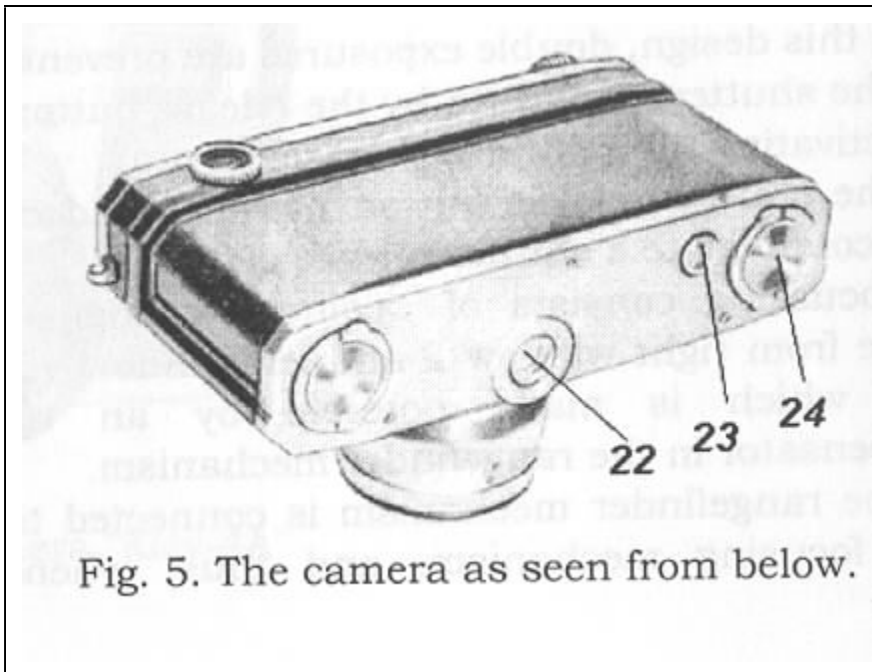
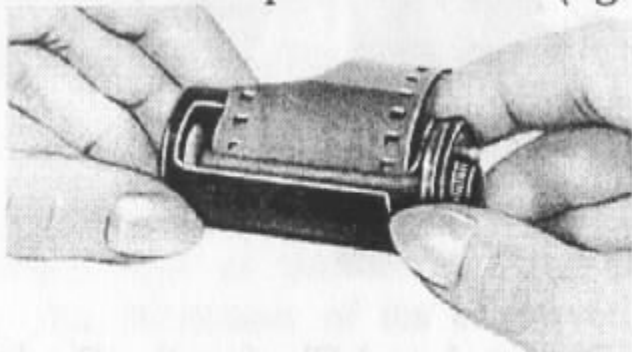
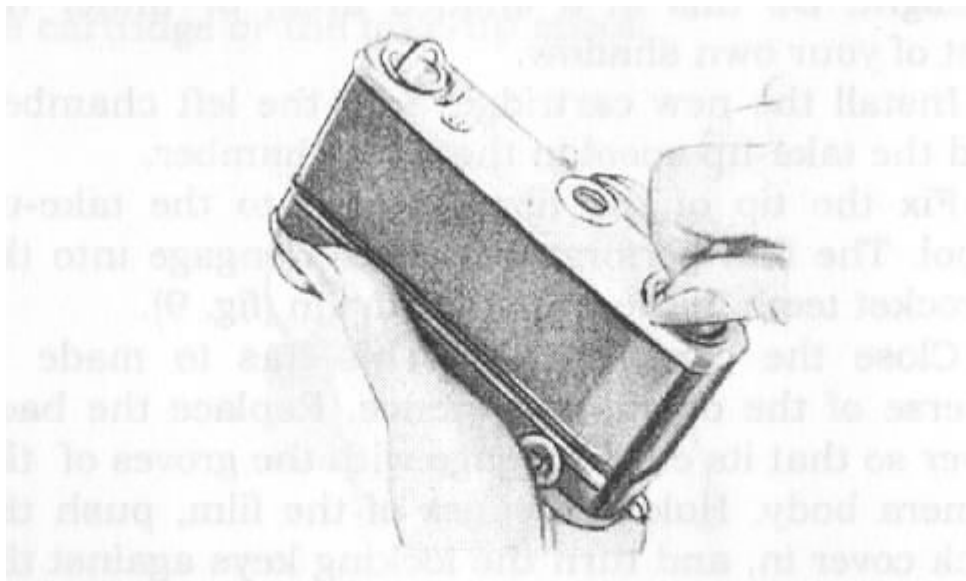

Fig. 5. The camera as seen from below.
Fig. 6. Old type film cartridge.
Fig. 7. Opening the locks on the back cover.
On the bottom of the back cover are: tripod socket 22, lock keys 24 for locking the back cover, and film rewind button 23 (fig. 5).
Standard 35mm (135 type) film cartridges or special old type cartridges (fig 6) can be used. Before loading, the camera should be taken from its case. Unscrew the locking screw found on the bottom of the case, fastened to tripod socket 22 (fig.5).
To open the camera and remove the cartridge, turn the camera bottom up and pull out the lock keys (24) and twist them (fig. 5) by half a turn against the stop as shown in fig. 7.